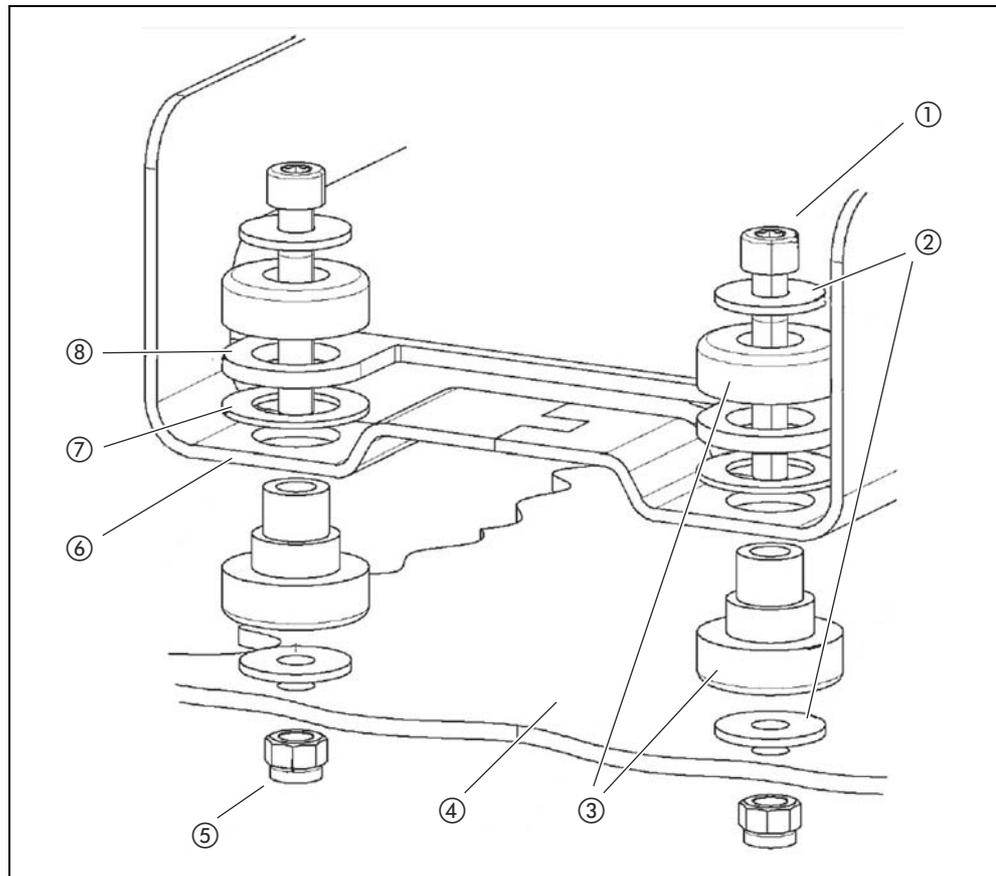

Fig. 5 Components of a fastener
- 3 Place the mass spectrometer module on top of the through-holes and screw it down using the fasteners as shown in Fig. 5.